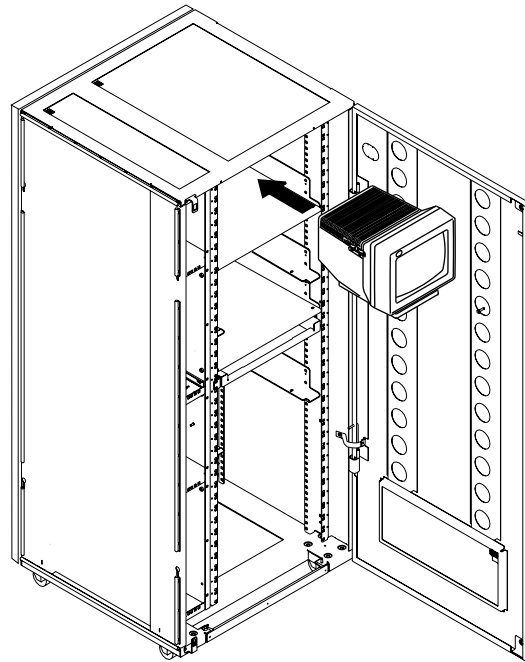

Figure 1-28. Installing the Display Screen in the Controller Expansion (Front Side)
12. ____ Slide the display screen on the top of the controller expansion (refer to Figure 1-28).